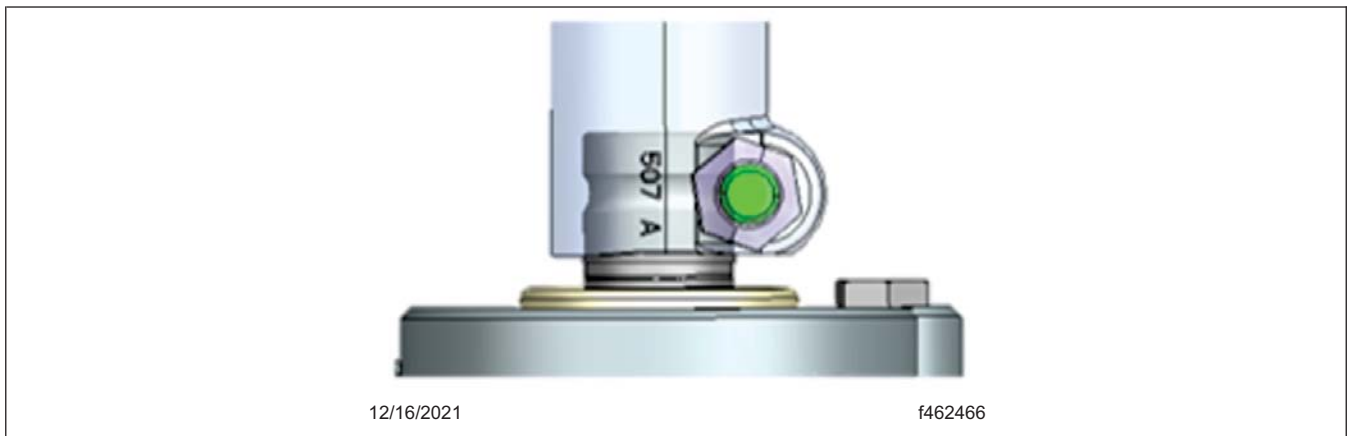
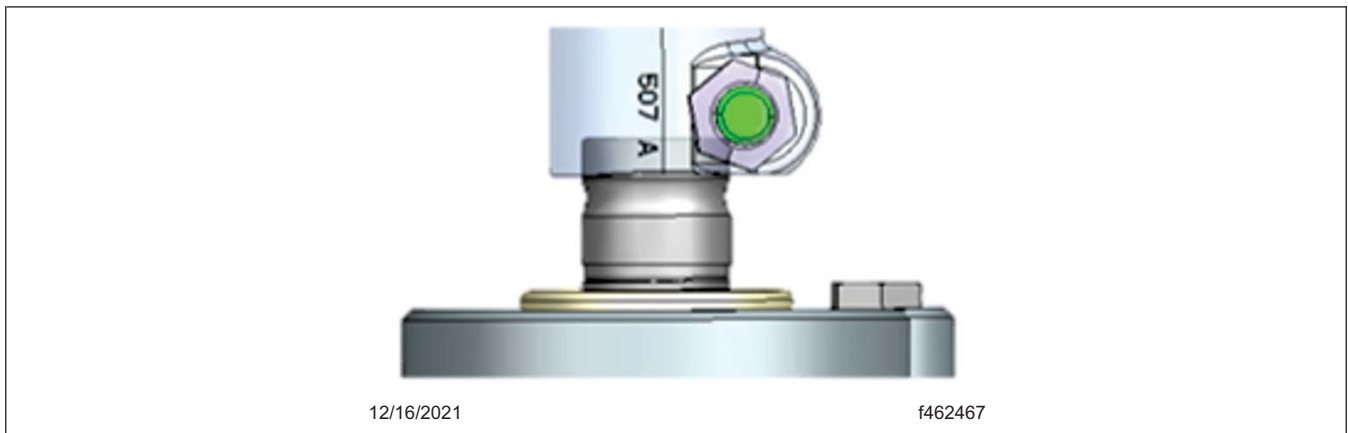

Fig. 2, Steering Shaft Installed Correctly
Fig. 3, Steering Shaft Lifted or Displaced
5. Inspect the steering shaft to steering gear attachment. The steering gear input shaft must be seated completely into the steering shaft. For correct installation, see Fig. 2. For a displaced steering shaft, see Fig. 3.